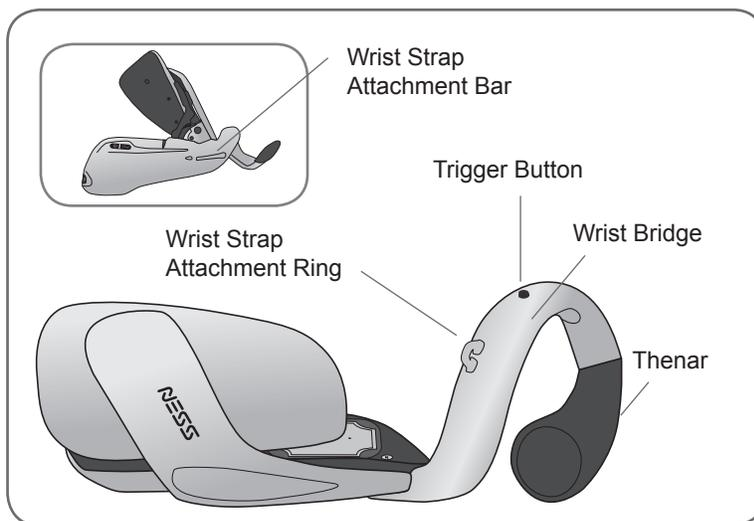

Figure 4-4: Spiral end of the H200 Wireless Orthosis.
The spiral end features: See Figure 4-4.
- A removable wrist insert—found on the underside of the wrist bridge and used to cushion the wrist. (Not shown in Figure 4-4.)